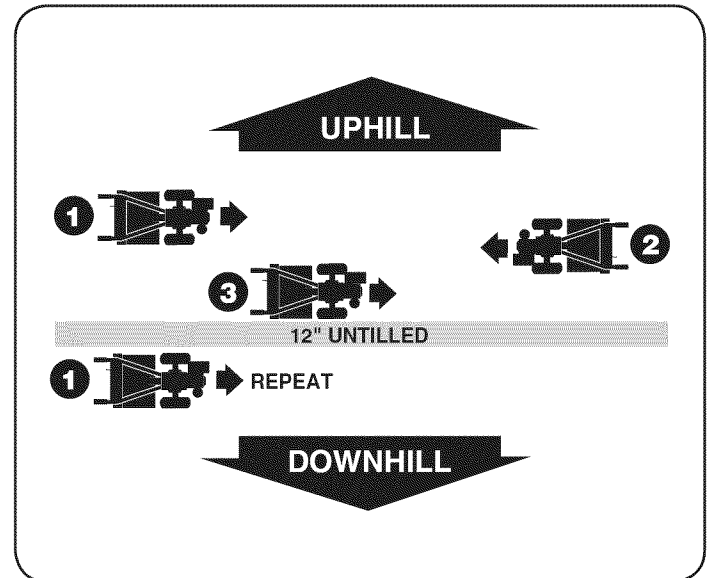

Figure 21
1. To create a terrace, start at the top of the slope and work down. Go back and forth across the first row. See Figure 21.